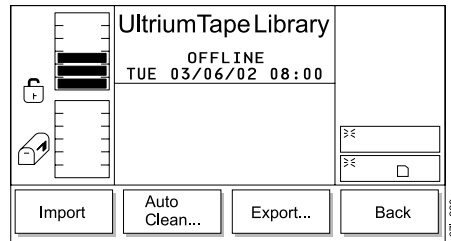

Figure 160. I/O Station Submenu
2. Press the button below the **I/O Station** softkey. The I/O Station Submenu displays (see Figure 160).
4. To return to the I/O Station Submenu (see Figure 160 on page 137), press the button below the **OK** softkey. To return to the Main Menu press the button below the **OK** softkey, then press the button below the **Back** softkey until the Main Menu displays.